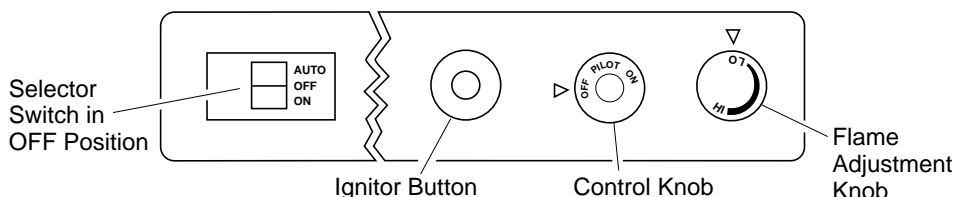

Figure 35 - Control Knob and Ignitor Button Location (Shown as Supplied, No Control Options)
5. Wait five (5) minutes to clear out any gas. Then smell for gas, including near the floor. If you smell gas, **STOP!** Follow "B" in the safety information, column 1. If you don't smell gas, go to the next step.
6. Press in and turn control knob counterclockwise to the PILOT position. Press in control knob for five (5) seconds (see Figure 35).